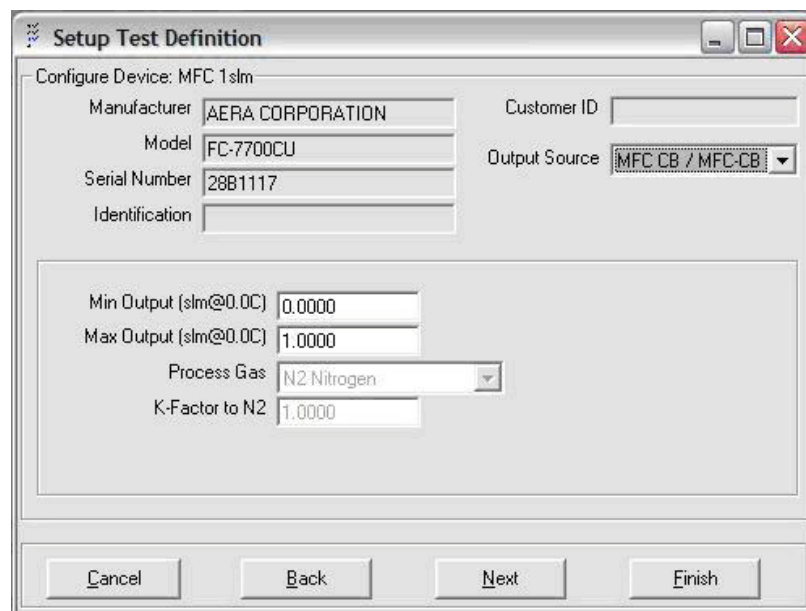

Figure 105. Run Test - Configure MFC Device window
- ⑥ A “**Configure Device**” window will appear for the selected mass flow controller (see Figure 105). Select the output voltage source for the mass flow controller, such as a molbox or MFC-CB. Select “**Next**”.
- 5 A “Configure Device” window will appear for the selected mass flow controller (see Figure 105). Select the output voltage source for the mass flow controller, such as a Referent/DUT molbox or MFC-CB. Select “Next”.